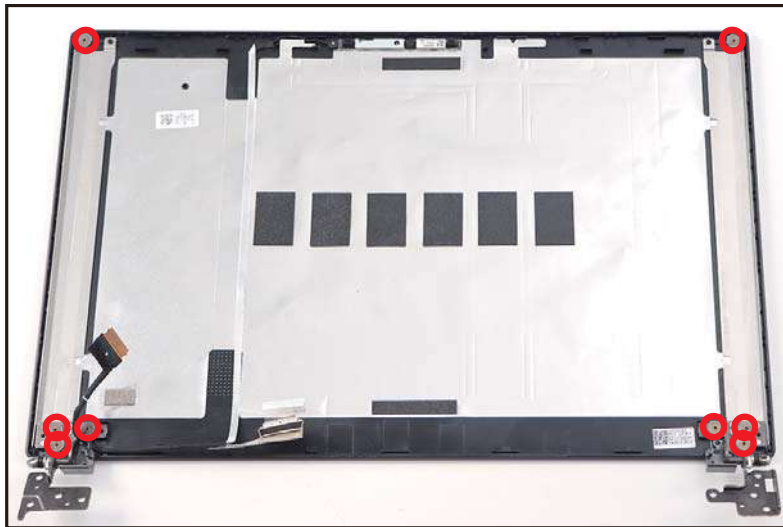

Figure 3-71. Replacing the LCD Hinges
2. Install and secure eight (8) screws to the LCD hinges (Figure 3-71).